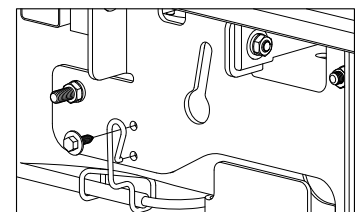

FIGURE C9: View from outside of Driver Side Frame.
- 6. Replace cable bracket.** If the brake cable bracket was removed at the beginning of the side plate installation, replace it onto the drivers side plate using the M8 bolt that was originally in the frame, See Figure C9.